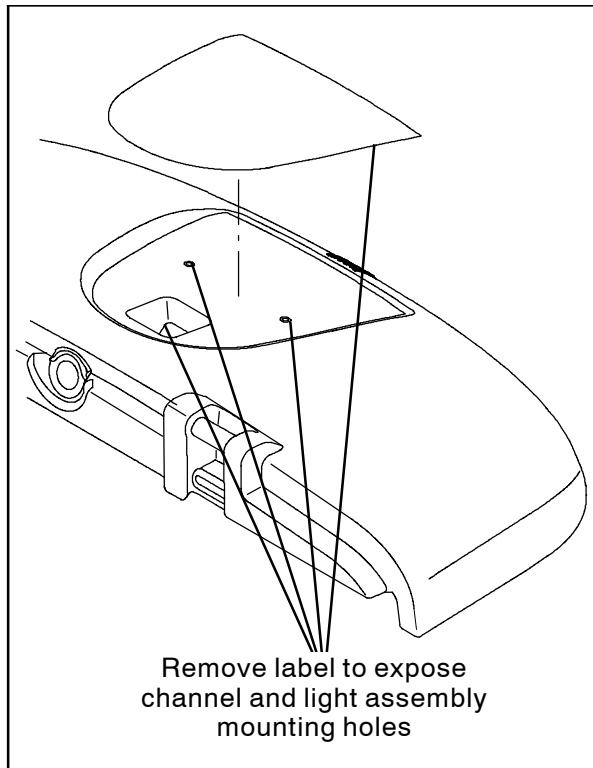

FIG. 23
18. Remove the label covering the light mounting holes and routing channel on the recovery tank cover from the recovery tank cover. (Fig. 23)